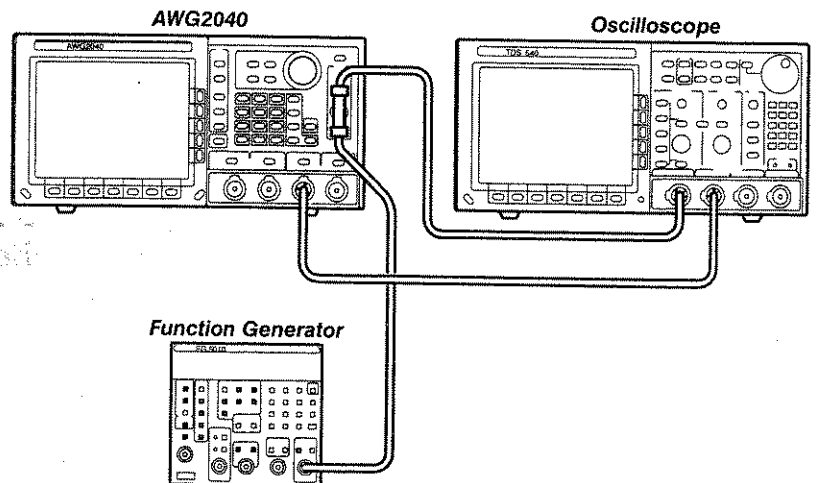

Figure E-20: Trigger to Marker Delay Initial Test Hookup
- Connect the AWG2040 MARKER1 output connector through the BNC coaxial cable to the CH2 vertical input connector on the oscilloscope(see Figure E-20).